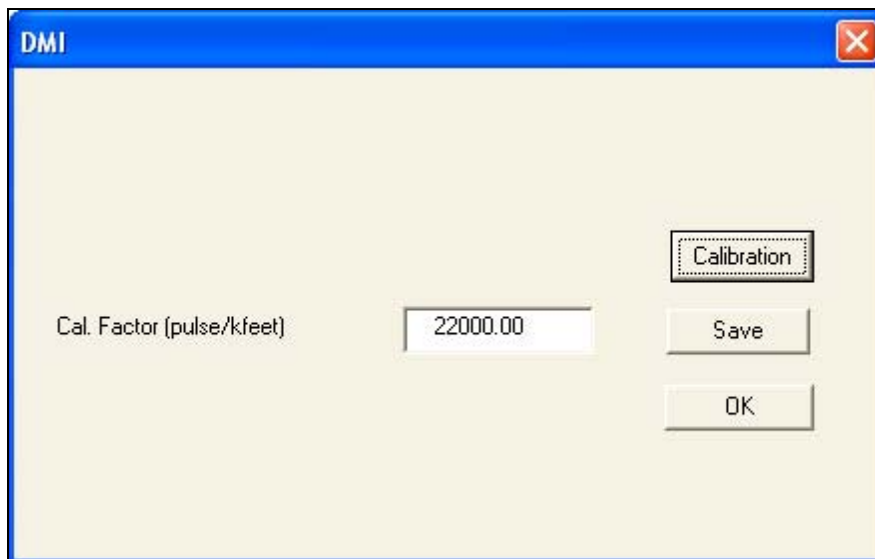

Figure 25. DMI Calibration Main Screen with Updated Calibration Factor.
- Pave-IR returns to the DMI Calibration Main Screen, as shown in Figure 25, with the newly determined calibration factor displayed.